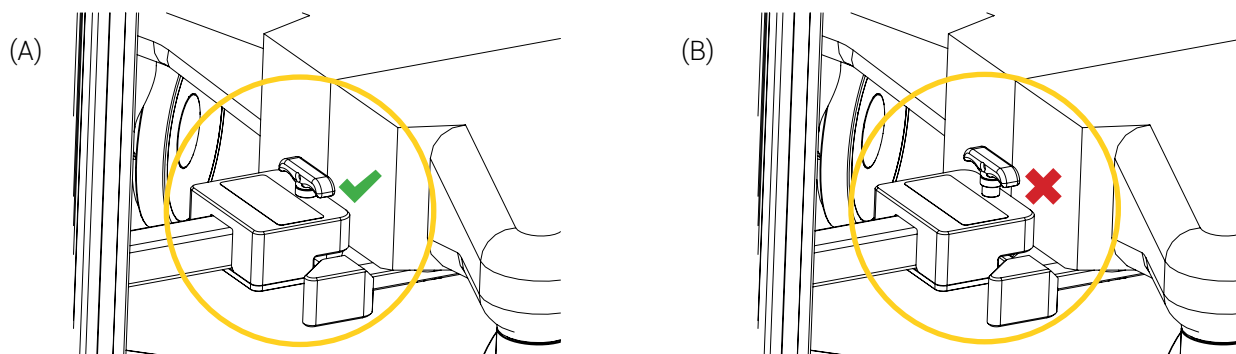

Figure 6 : Cart installed on the incubator
7. Ensure that coupling between the fold-up hitch of the transport cart and the THS coupling device under the incubator is properly secured (Figure 6).